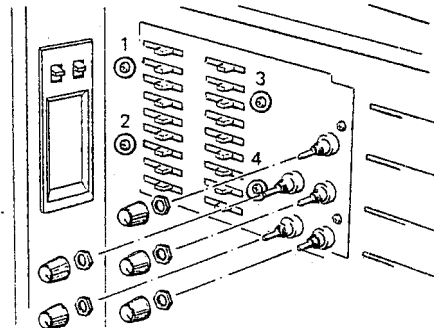

Fig. 4
- Remove four screws (① through ④ in Fig. 4), AUX IN 1, 2, PAN and PHONES knobs and hexagonal nuts from the control panel, and then remove MAS circuit board.